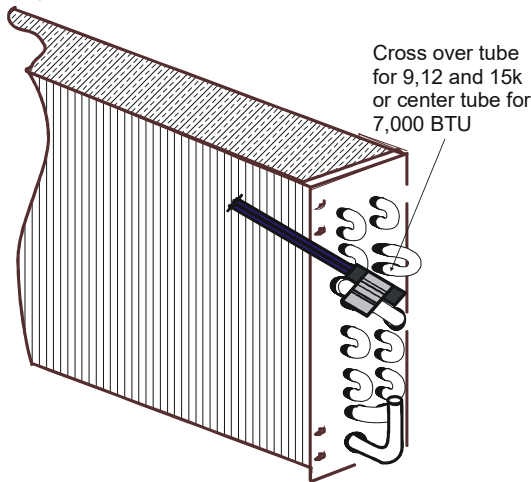

Figure 8
D. If the existing Outdoor Coil Thermistor (with the BLUE wires) was connected to the board by a plug-on connector, reconnect it to the new board on the OCT (blue) terminals. If the previous board used indoor coil bi-metals, remove and discard the bi-metal devices. The Indoor Coil Thermistor will need to clip on the crossover tube shown in Figure 8. There will be two clips supplied in the kit for the Blue Thermistor. One clip as supplied on the sensor will fit 5/16" tubing used on the bent coil, and an additional clip (loose in the bag) will fit 3/8" tubing used on the flat slab coil. If you have a slab coil, you will need to remove the 5/16" clip from the sensor and replace it with the 3/8" tube clip. Connect the Outdoor Coil Thermistor to the board as noted above. Outdoor Coil Thermistors are only used on Heat Pump models; DO NOT INSTALL THIS SENSOR IF THE UNIT IS NOT A HEAT PUMP.